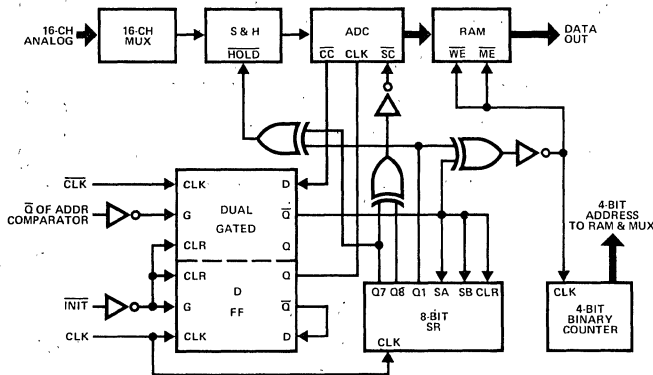
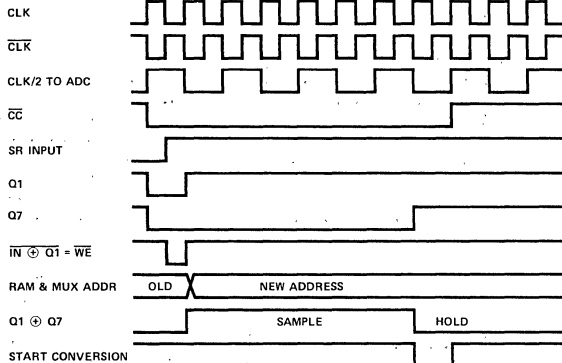

FIGURE 15. Sequencing Logic with SR
FIGURE 16. Timing for S-R Sequencing
An alternate sequencing circuit without one-shot circuits is shown in Figure 15 with timing relationships in Figure 16. It makes use of a shift register and exclusive-OR gates to generate the gates needed to write into memory, sample and hold, and start conversion. The ADC clock is generated at twice the desired clock frequency and divided by 2 in a D flip-flop. In this manner, the minimum gate width is 1/4 of the ADC clock period (620ns in this example). The \overline{CC} signal is clocked into a D flip-flop with a delay of 620ns. The delayed output clears the shift register (SR) and is clocked into the SR after an additional 620ns delay. An exclusive-OR of the SR input and Q1 output generates a 620ns gate to write data into the RAMs. The trailing edge of this WE gate clocks the $\div 16$ counter to advance the MUX and RAM address to the next channel. Exclusive-ORing of SR Q1 and Q7 produces an 8.75 μ s sample gate. (If the acquisition and settling time of the S&H is greater than 8.75 μ s, additional circuit complexity is required.) Exclusive-ORing of Q7 and Q8 produces a synchronized 1.25 μ s gate to start the ADC. This circuit may not be the most versatile or elegant for the purpose. For those applications with longer S&H acquisition times or other requirements, some alternate circuit may be designed if that of Figure 15 is unacceptable.